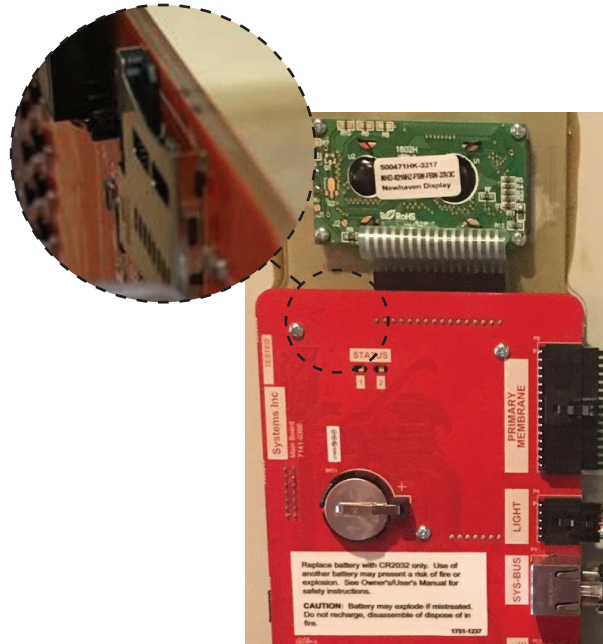

Figure 1
5. Insert the Micro SD card into the iDock main board (see detail on Figure 1).